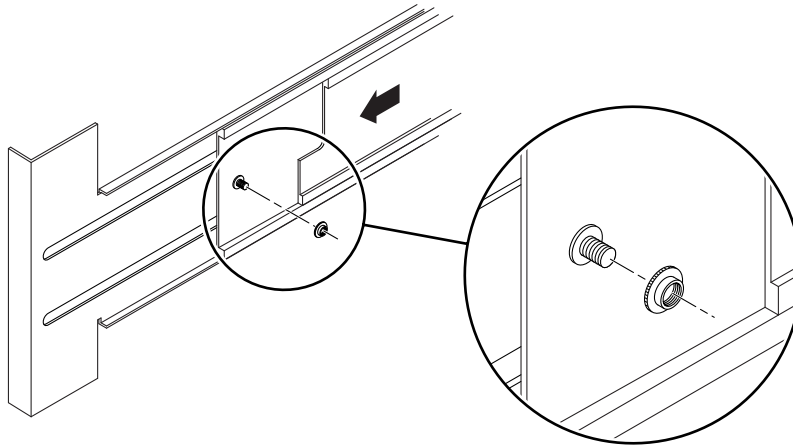

FIGURE 1-13 Inserting and Tightening the Slide Rail Spacers
3. **From the rear of the system, insert and tighten the supplied spacers onto the bolts (FIGURE 1-13).**